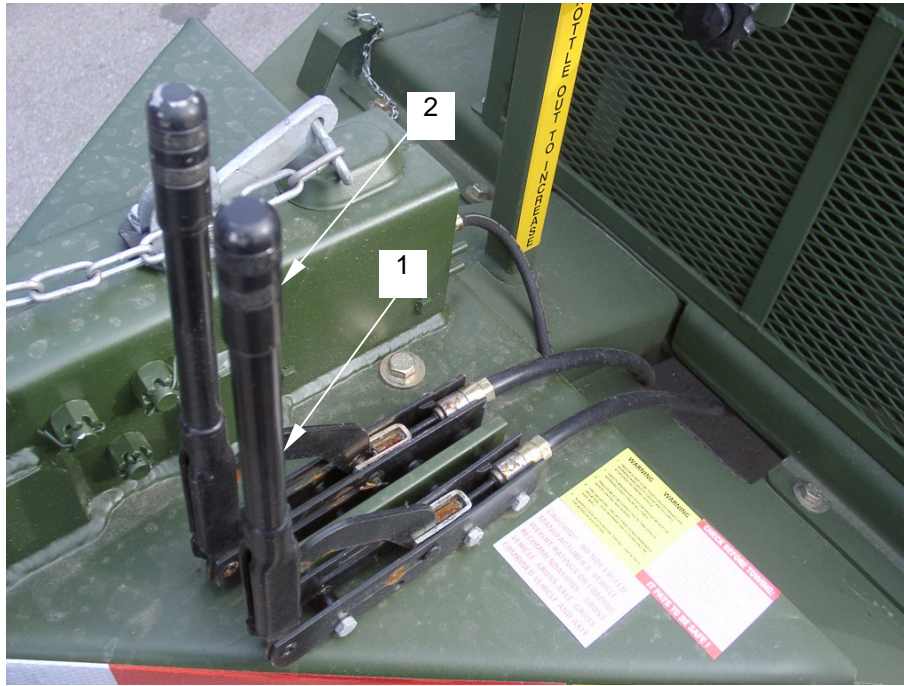

Figure 1. Brake Handle Adjustment
1. With the brake released (handle in upright position (**figure 1, item 1**)) turn the adjustment knob (**figure 1, item 2**) on top of the handle to the right to tighten and the left to loosen the brakes on all wheels of the side being adjusted.